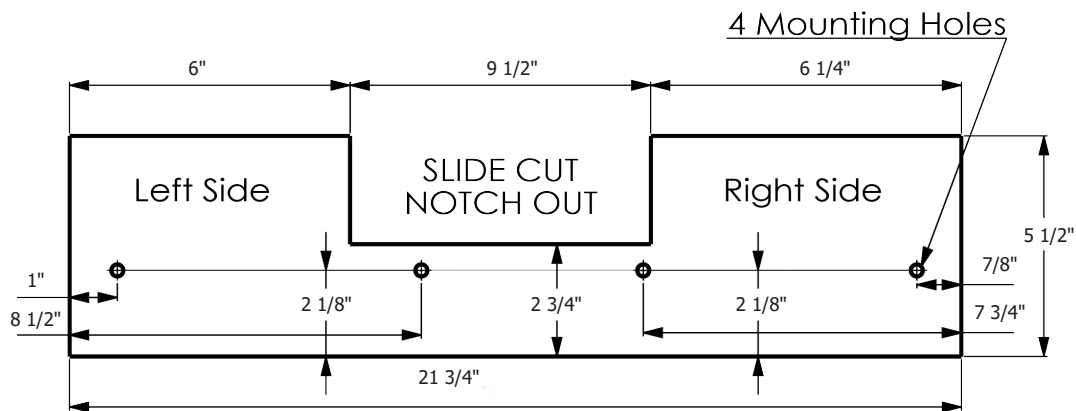

Figure 37
See Figure 37 for auxiliary fence dimensions.
6. The notch, see Figure 37, **MUST** be cut out in order to make slide cuts using the auxiliary fence.